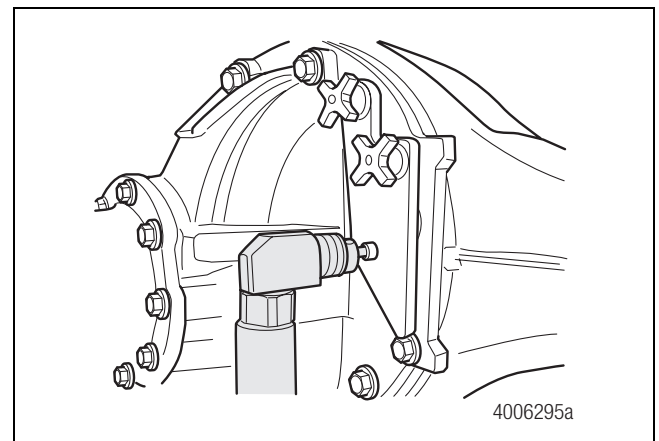

Figure 5
10. Check for adjusting ring lug clearance. With the size "L" drill bit still in the drill chuck, reinsert the size "L" drill bit into the drilled hole, until the drill chuck contacts the drill guide bushing. Figure 5.